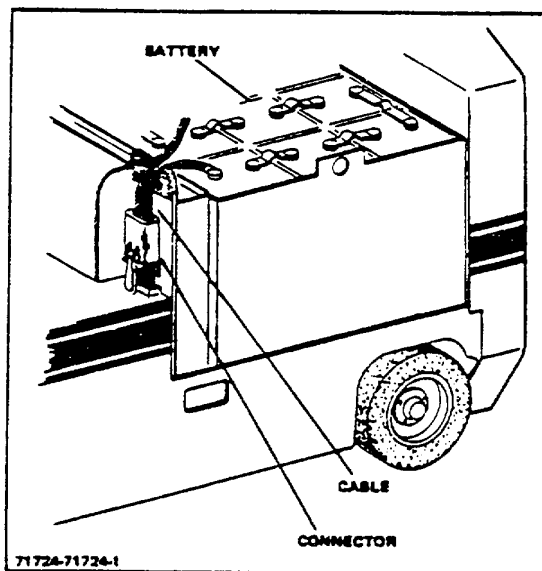

Figure 3-2. Battery Connector
3. Check Exterior Of Battery Daily, check the battery cables, posts, and exterior of the battery. Battery cables must not be frayed nor loose at the battery posts. Also inspect battery connector (Fig 3-2) and make certain there is no foreign material inside the connector. Make certain filler plugs are tight and vent holes in the filler plugs are not clogged.